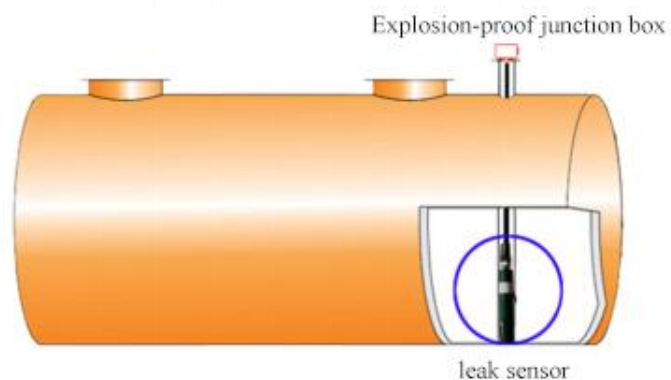

Figure 1: installation diagram of dry type tank
A. The dry type tank adopt normally open liquid switch, installed at the bottom of the tank(Figure 1), on-site installation step as follows: